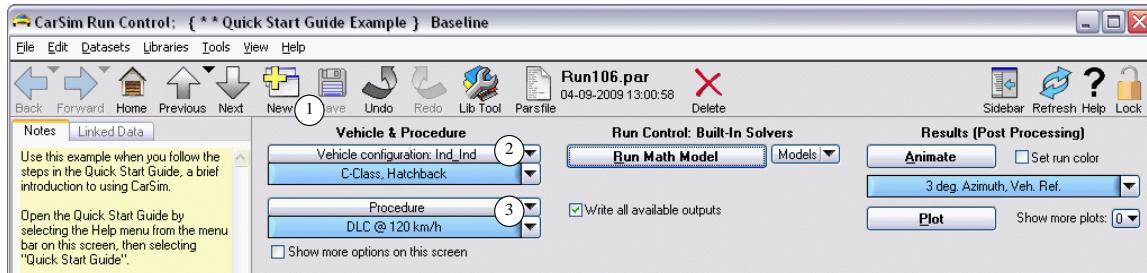
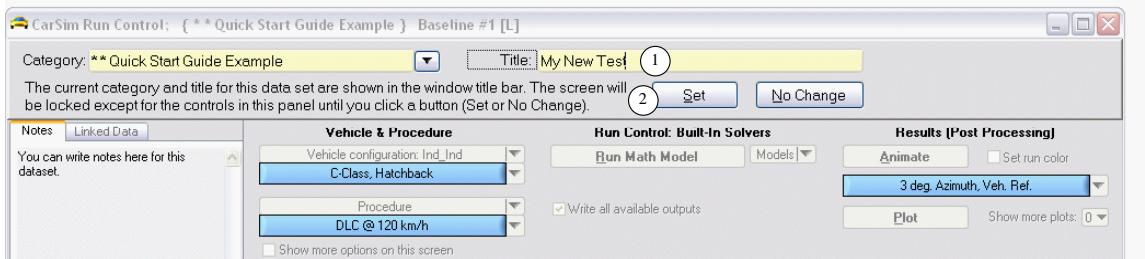
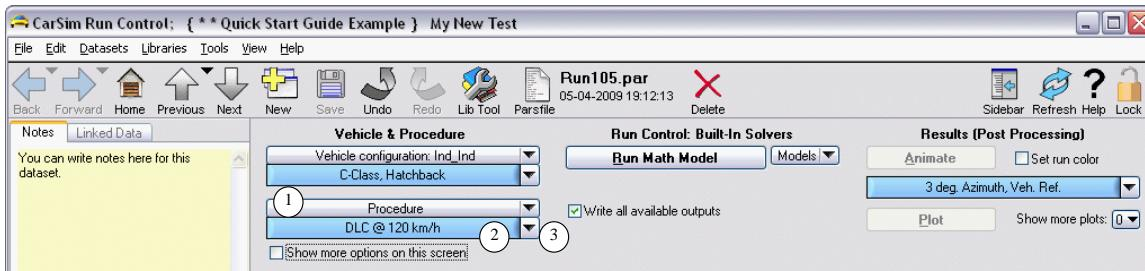

Figure 15. The CarSim Run Control screen (repeated from earlier figure).
Figure 16. Setting the name of a new dataset.
Figure 17. The CarSim Run Control screen for a new dataset.
You should be viewing the **CarSim Run Control** screen with the dataset named **Baseline** in the category **Quick Start Guide Example**, shown again in Figure 15.
In the previous sections, you ran the vehicle in a baseline condition, and viewed results using the animator and plotter. To do this, you used the three main buttons shown in Figure 15: **Run Math Model**, **Animate**, and **Plot**. The two areas that have not yet been investigated are in the upper-left part of the screen under the title **Vehicle and Procedure** (items ② and ③). These link to datasets that define the properties of the simulated vehicle and procedure. In this section, you will run a new test with a new procedure involving a different test speed.
1. Right-click the **New** button ① for an on-line description of the button. Then click the **New** button ①.
The menu bar and tool bar will be covered with a window that prompts you to enter a title for the new test (Figure 16). Enter a new name in the title field: My New Test ①. Click the
Set button ② to set the new name. The new screen display is nearly identical to the previous one, except that the **Animate** and **Plot** buttons are dimmed because the run has not yet been made (compare Figure 15 and Figure 17).
2. Notice the three controls that are identified by circled numbers in Figure 17. All three involve another dataset that is linked to this one. Right-click on each for on-line descriptions: